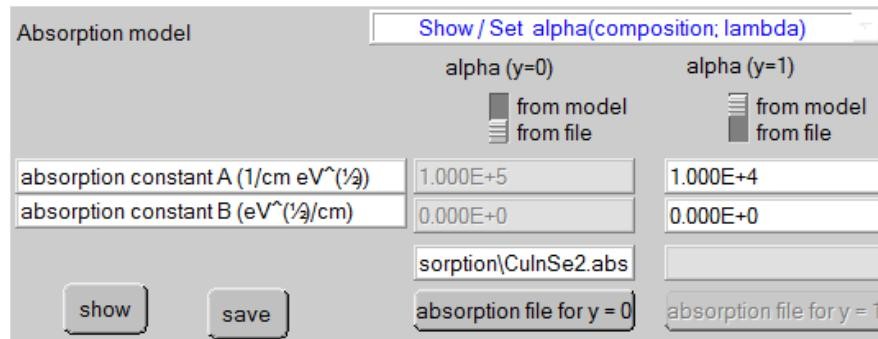

Figure 3.13 Setting the absorption constant from file (left) or from model (right). The grading can be shown or set by clicking the ‘Show/set alpha’-button.
The optical absorption constant can be set from either from a model or from a file, see Figure 3.13. When it is set from a model, $\alpha(\lambda)$ is given by (6).